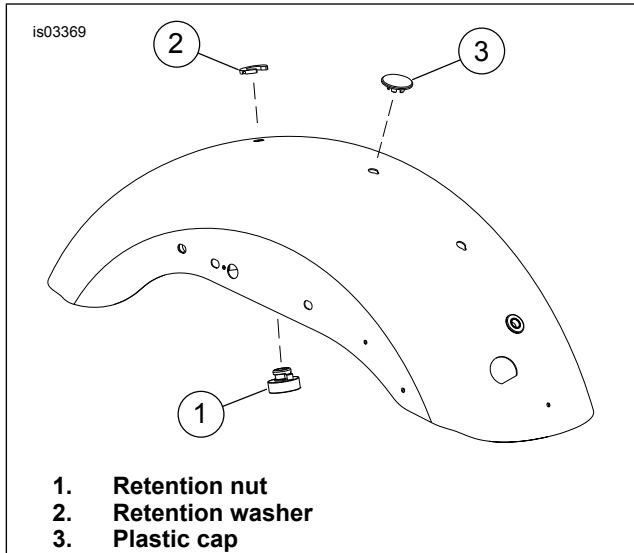
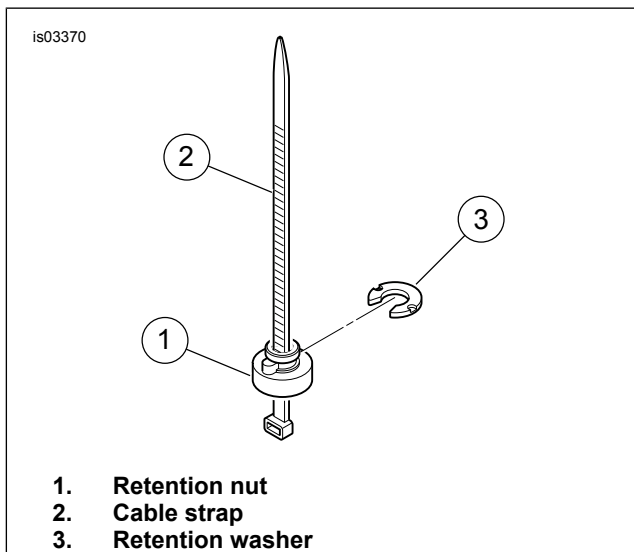

Figure 3. Retention Nut and Plastic Cap (2-Up Seats)
Figure 4. Retention Nut Installation
5. See Figure 3. Install retention nut (1) and washer (2) into rearward fender hole.
- a. See Figure 4. Place retention nut (1) over cable strap (2) so wide end of nut rests on eye of cable strap.
- d. With rib on retention nut seated into notch in fender hole, slide retention washer (3) into place from rear. This will lock retention nut in place.
6. See Figure 3. Install plastic cap in middle fender hole.